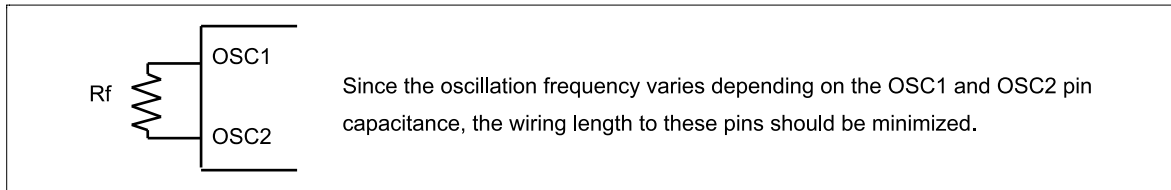

Figure 62 Internal Oscillation
10. Applies to the internal oscillator operations using external oscillation resistor Rf (figure 62 and table 30).